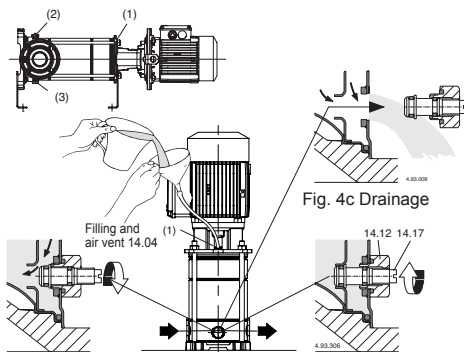

Fig. 4a Filling:
When the pump is located above the water level (suction lift operation, **fig. 3A**) or with a positive suction head which is too low (less than 1 m) to open the non-return valve, fill the suction pipe and the pump through the priming hole (1) (**fig. 4a,4d**).
MXV-B, MXV(L) 25-32-40-50, MXV(L)4 25-32-40-50 During filling, the needle screw (14.17) in the drainage plug (14.12) must be kept loose so as to allow a free passage between the pressure chamber and the suction chamber (**Fig.4a**).